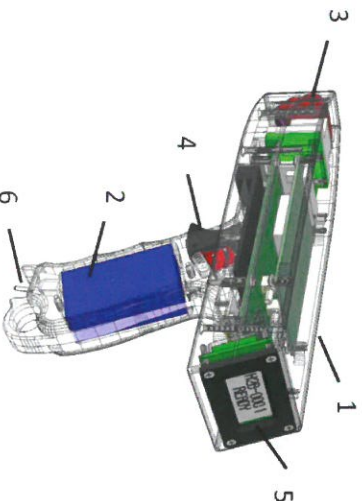

Fig.1 H2H: 1 - sensor head; 2 – battery; 3 - optical window; 4 – trigger; 5 – display; 6 –On/Off switch.
H2B™ is a small-size and lightweight hand-held sensor for on-site use (Fig.1). It has up to 6 hours of autonomous operational capacity with rechargeable battery (2). The inspection of the surface is carried out by UV-light beam through the optical window (3). The sensor operation is controlled by the trigger (4). The result of testing is instantly visualized on the display (5) and transmitted to the data logger via WiFi.